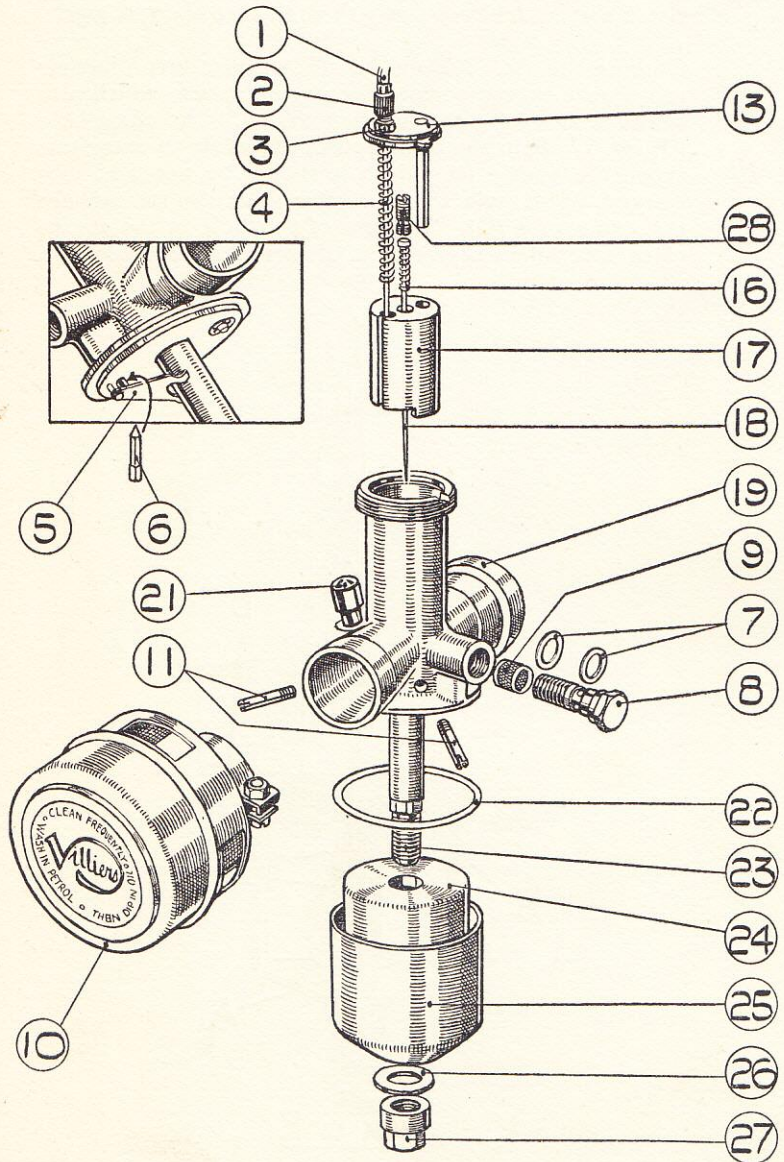

FIG. 27.
The Villiers type 3/4 carburetter (Fig. 27) is fitted to the Mk. 10D. engine, and a type 4/5 two-lever carburetter to the Mk. 6E. engine. These numbers will be found stamped on the inlet stub immediately behind the clip (No. 19 Fig. 27/28). The setting of the carburetter will be done by the maker after road testing the machine, and it should not be necessary to make any alteration except in exceptional conditions.
The function of the carburetter is to supply a mixture of fuel and air in correct proportions under all running conditions. In the Villiers carburetter, the float chamber (No. 25, Fig. 27) surrounds the jet centre piece (No. 23) and in it an annular float (No. 24) rises as the fuel enters the chamber until the correct level is obtained, then the fork lever (No. 5) which rests on the top of the float lifts the fuel needle (No. 6) which has a conical end and shuts off the fuel supply by closing the hole in the bush.
In the Mk. 10D. carburetter fuel enters the jet body through a hole (A) Fig. 29, and passes through the jet in which the long taper needle operates, and passes up through an offset hole (B) in the centre piece. The position of this needle relative to the slide can be altered by removing the screwed ring and top disc and screwing up or down the small screw in the centre of the slide. Screw in the screw to weaken the mixture, *i.e.*, lower the needle. Screw out the screw to richen the mixture. The screw should not be loose in the throttle slide as it is likely to move and alter the setting. It is split to make it grip the hole. Should the screw be loose the split portion should be gently prized apart. Note the taper needle spring should be fitted with the small coil under the head of the needle. The slide (No. 17, Fig. 27) operated by the throttle cable controls the air supply and is fitted with taper needle (No. 18) which extends below the slide through the centre piece and into the needle jet. When the throttle slide closes the air supply the largest diameter of the needle nearly closes the fuel outlet, but when the slide is lifted admitting more air, the smaller diameter of the needle now in the jet allows more fuel to pass. A suitable combination of jet size, needle position and taper will give a correct mixture strength at all throttle openings.
On both the Mk. 10D. and Mk. 6E. carburetters a further refinement to compensate for engine speed, which also assists in atomising the fuel is provided. The offset hole (C) Fig. 27/28, in the centre piece allows air to enter just above the needle jet, which it should be noted is submerged. This hole communicates with the atmosphere through a tube (D). The size of this hole in the centre piece determines the amount of correction provided.
Unscrew the bottom nut (No. 27, Fig. 27/28) underneath the float chamber cup.
A certain amount of slack may develop in the throttle cable after a time; this can be taken up by means of the adjuster on the top of the carburetter (No. 2, Fig. 27).